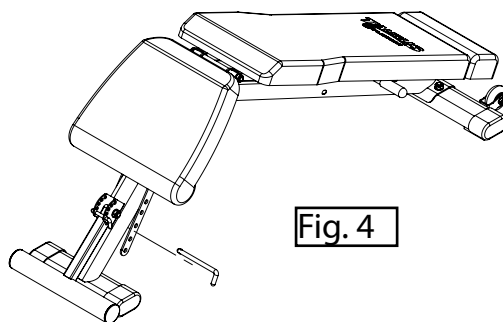

Fig. 4
7. Remove the L-pin from underneath the seat cushion (D) (Fig. 4).
8. Lower the seat cushion (D) (Fig. 4).
9. Insert the L-pin underneath the seat cushion (D) (Fig. 4).